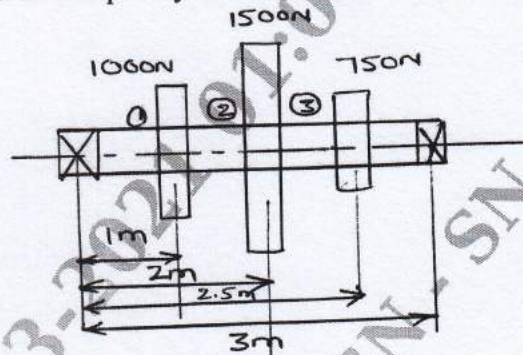

Fig.Q9(a)
- 9 a. A shaft shown in Fig.Q9(a) of 50 mm diameter and 3m long is supported at the end and carries three weight of 1000 N, 1500 N and 750 N at 1m, 2m and 2.5m from the left support. Taking $E = 200 \text{ GPa}$, find the frequency of transverse vibration.